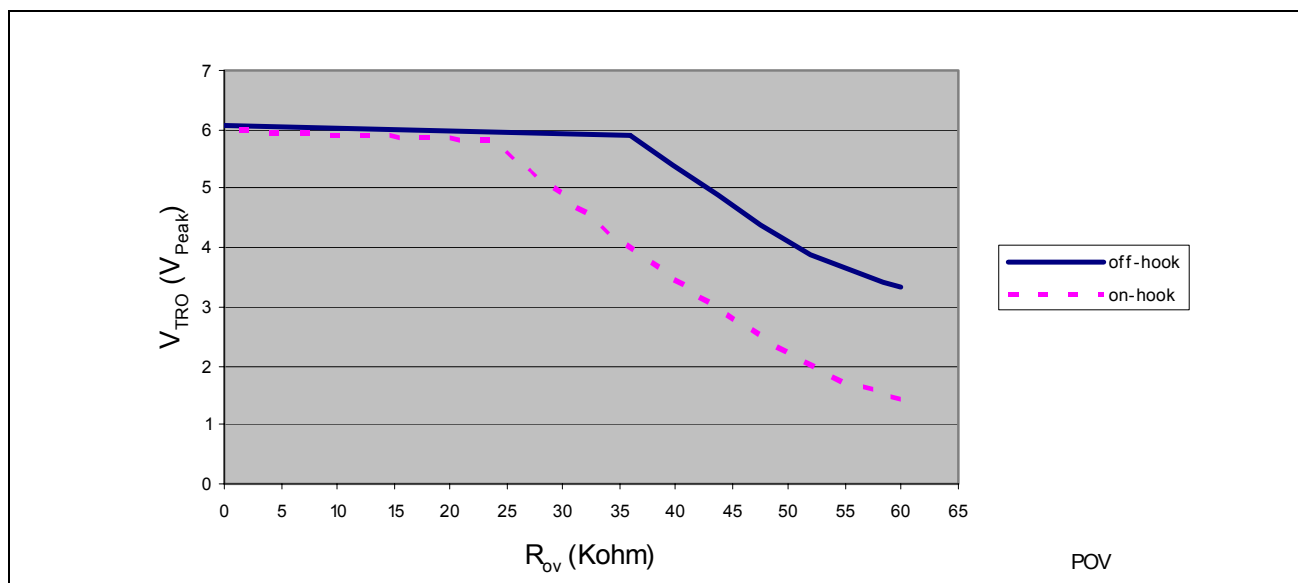

**Figure 14 Programmable Overhead Voltage (POV).  $R_{\text{L}} = 600 \Omega$  or Infinite**
With the POV function the overhead voltage can be increased. If the POV pin is left open the overhead voltage is internally set to  $3.2 V_{\text{Peak}}$  in off-hook and  $1.3 V_{\text{Peak}}$  on-hook.. If a resistor  $R_{\text{OV}}$  is connected between the POV pin and AGND, the overhead voltage can be set to higher values, typical values can be seen in **Figure 14**. The  $R_{\text{OV}}$  and corresponding  $V_{\text{TRO}}$  (signal headroom) are typical values for THD < 1% and the signal frequency 1000 Hz.
2. In **Figure 14** the corresponding  $R_{\text{OV}}$  for the decided  $V_{\text{TRO}}$  can be found.